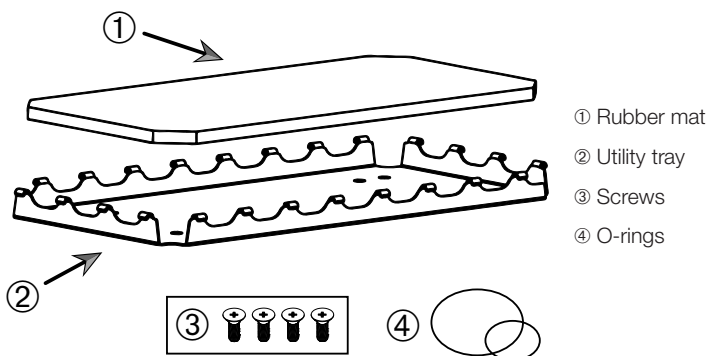

Figure 99: Utility Tray Assembly
1. Place utility tray ② on platform.
3. Fasten the utility tray ② using the screws ③ supplied with the utility tray.
4. Place rubber mat ① in tray ②.
5. Place bottles on the tray and secure with the O-rings ④ supplied, as shown in Figure 99.